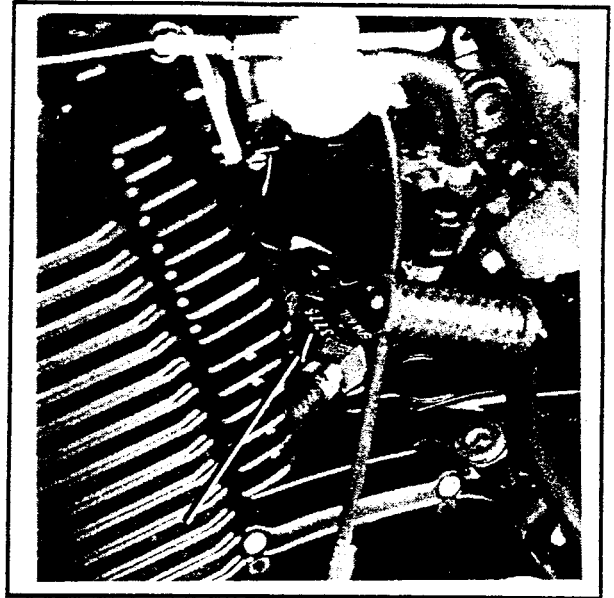

Figure 1-3. Engine Serial Number
2. See Figure 1-3. The engine number is also stamped on the RH. crankcase of the engine, to the rear of the cylinder, just inboard of the exhaust pipe.